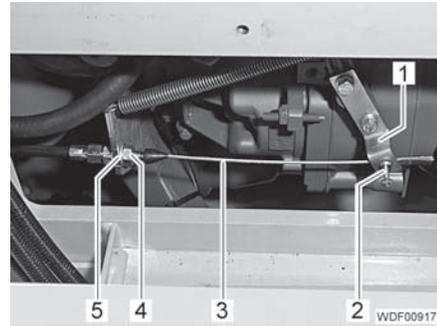

Fig. 94 Rear attachment of the Bowden cable
- Undo the screw (Fig. 94,2).
- Undo the nut (Fig. 94,4) and remove the Bowden cable (Fig. 94,3) from the mount (Fig. 94,5).
- Insert the Bowden cable (Fig. 94,3) into the mount (Fig. 94,5) and tighten the nut (Fig. 94,4).
- Thread the Bowden cable through the screw (Fig. 94,2) on the mount (Fig. 94,1).
- Pull the Bowden cable tight and tighten the screw (Fig. 94,2).